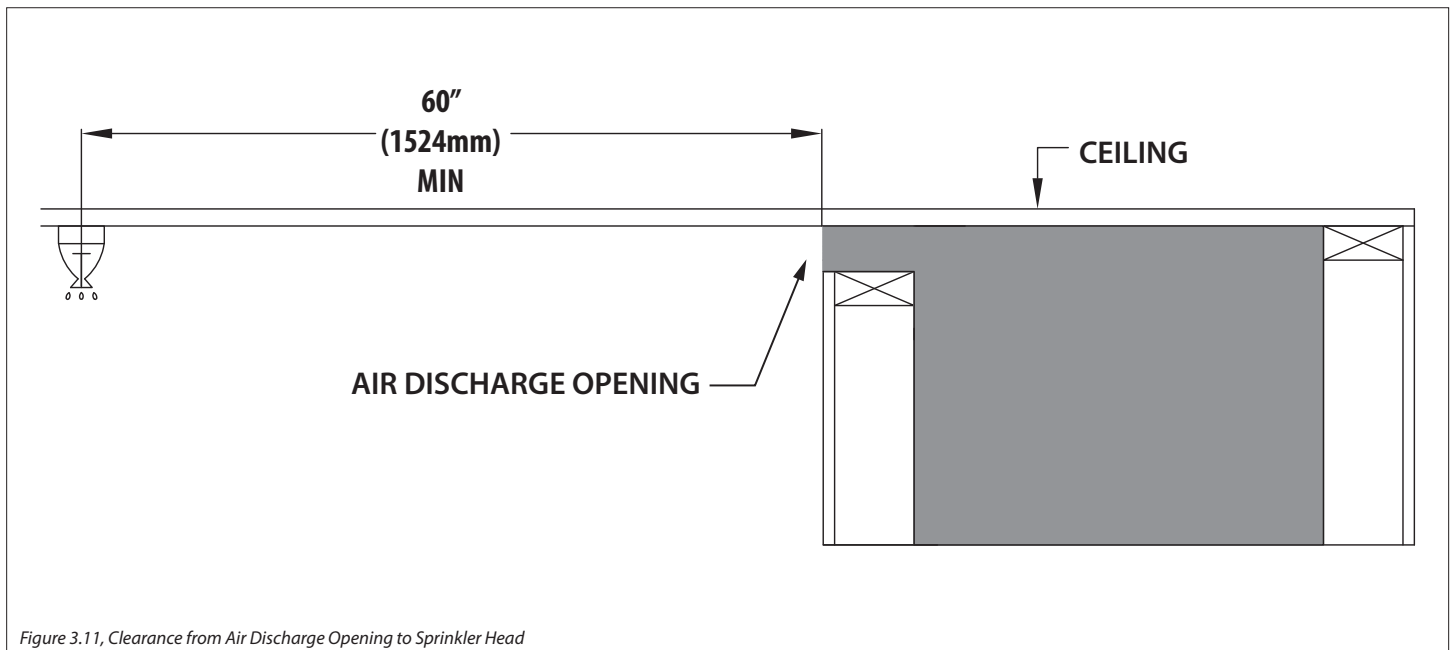

Figure 3.11, Clearance from Air Discharge Opening to Sprinkler Head
- In a situation where a sprinkler head is installed within the proximity to a vented cavity air discharge opening, Figure 3.11 MUST be followed.